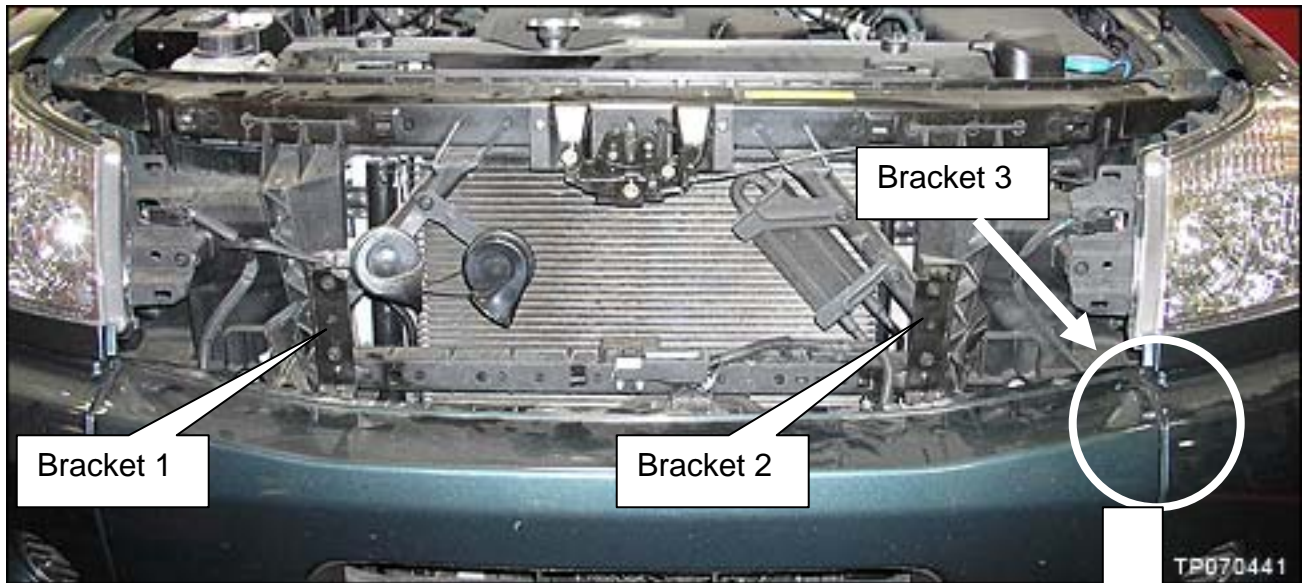

Figure C-10
c. Remove 2 bolts from each of the 3 bumper brackets shown in Figures C-10 and C-11.